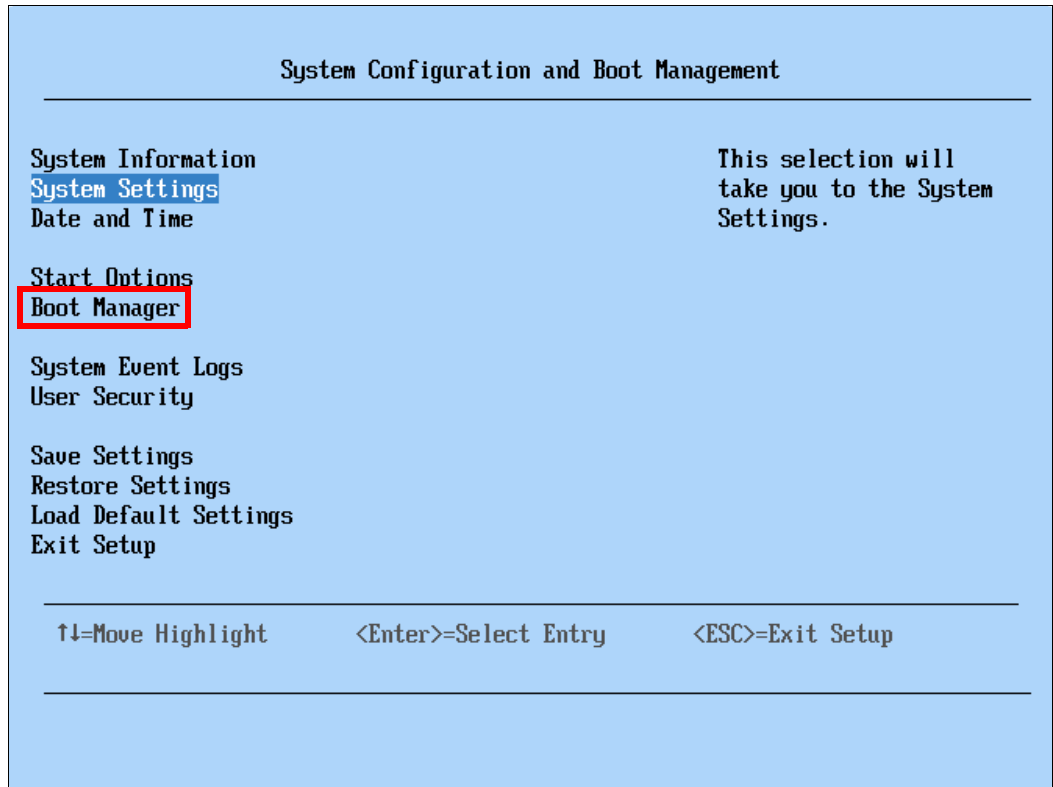

Figure 8-19 UEFI System Configuration and Boot Management menu
2. In the UEFI System Configuration and Boot Management menu, select **Boot Manager**, as shown in Figure 8-19 on page 388.